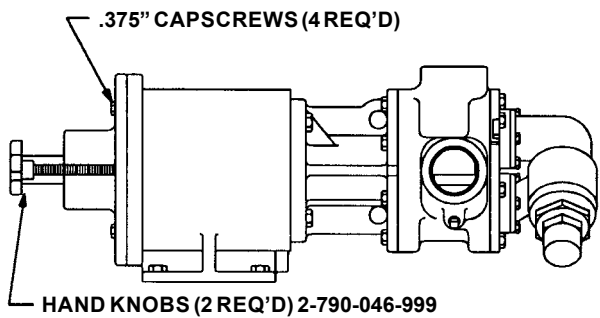

FIGURE 7
1. If unit has a spacer coupling then bracket of coupling can stay bolted to base. Without spacer coupling, either the reducer will need to be removed or the coupling unbolting. Remove piping to pump, provide a minimum of 4" of clearance beyond end of coupling shaft. Insert (2) .5" U.N.C. handknobs which have a minimum of 4.5" of full threads into the two tapped holes at 9 and 3.00 positions on the back of the bearing housing. Remove the (4) .375 capscrews. See Figure 7.